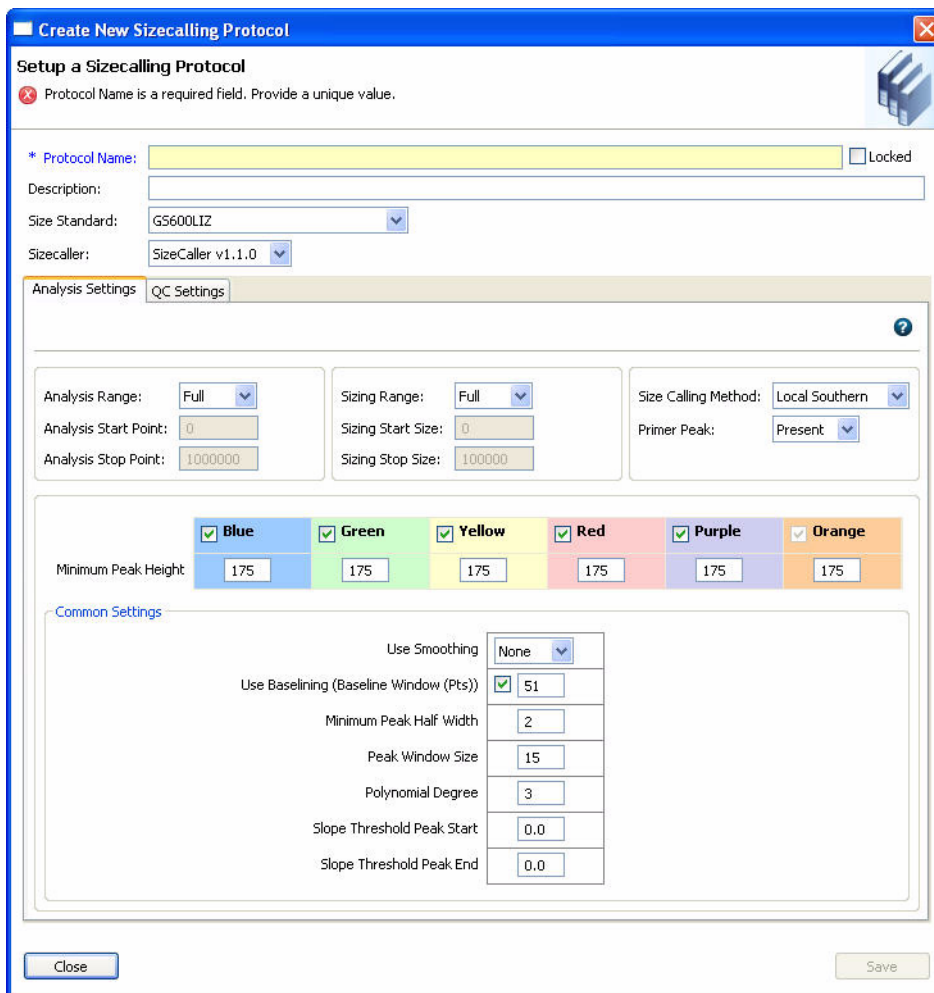

Figure 26 Create New Sizecalling Protocol – Analysis Settings
3. In the Analysis Settings tab of the Create New Sizecalling Protocol dialog box (Figure 26 on page 180), specify settings (see Table 14 on page 180).